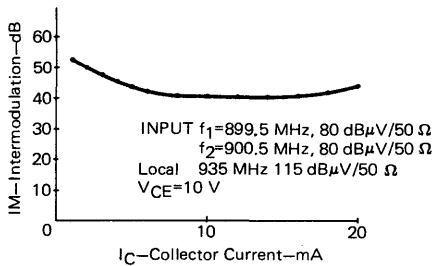

Fig. 8 Intermodulation vs. Collector Current
The intermodulation (IM) ^{note 2)} shown in Fig. 8 is as good as 53 dB for a small current ($I_C=1$ mA).